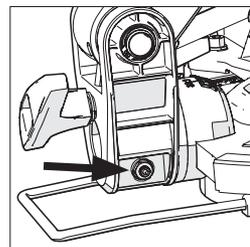

Fig. 11
- Use the Hex key to adjust the adjustment screw in or out as required (Fig. 11).